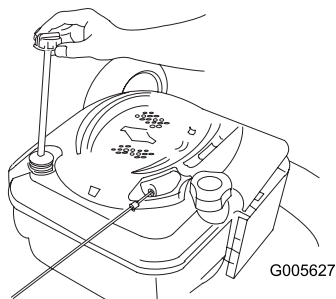

Figure 31
1. Retirez la jauge (Figure 31).